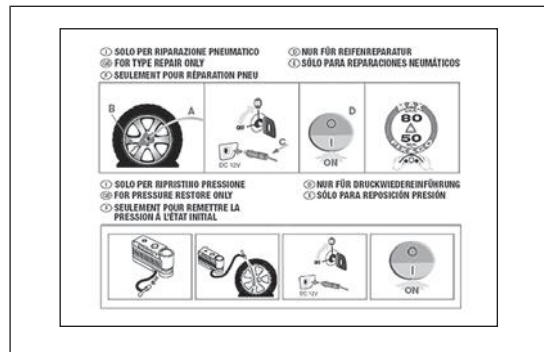

fig. 121
- ☐ instruction brochure (see fig. 121), to be used for prompt and correct use of the quick tyre repair kit and then to be handed to the personnel charged with handling the treated tyre;